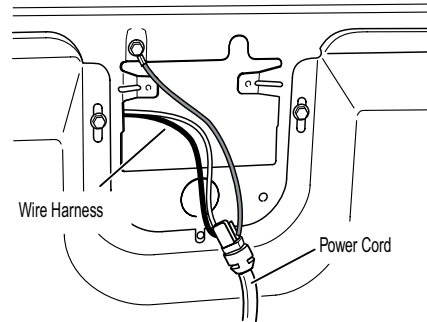
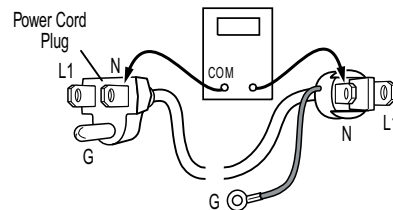

Figure 4. Power cord-to-wire harness connection.
Figure 5. Plug-to-terminal connections.
3. Check that the power cord is firmly connected to the dryer's wire harness. See Figure 4.
5. With an ohmmeter, check for continuity between the neutral (N) terminal of the plug and P8-3 (white wire) on the machine control board. The left-hand side of figure 5 shows the position of the neutral terminal (N) on the power cord plug. Also see Figure 16.
- If there is no continuity, disconnect the white wire of the harness from the power cord at the location illustrated in Figure 4. Test the continuity of the power cord neutral wire as illustrated in Figure 5. If an open circuit is found, replace the power cord. Otherwise, go to step 6.
- If there is no continuity, check the continuity of the power cord in a similar way to that illustrated in Figure 5, but for power cord's L1 wire.